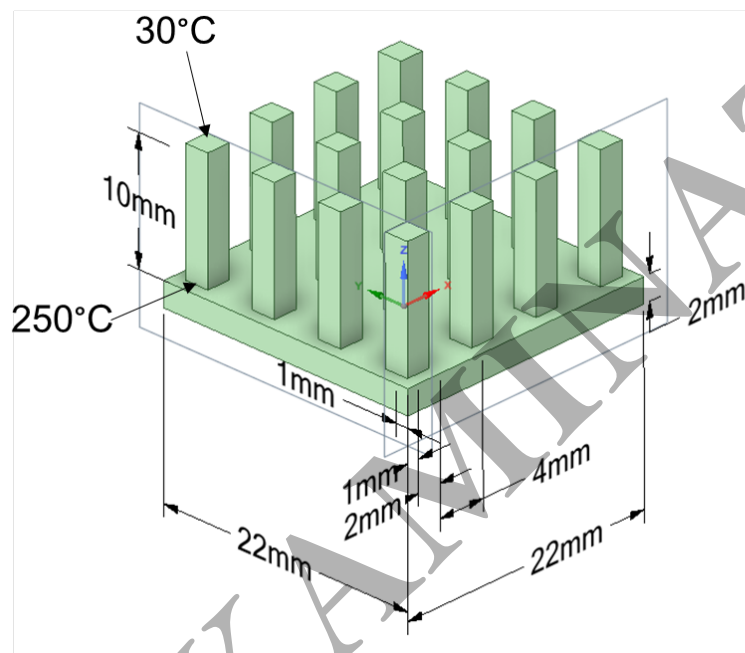

Figure Q2a: A heat sink with temperature boundary conditions.
- b) You are in the process of designing a new cooling system for a high-performance computing unit. You are at a stage where you need to assess the temperature distribution due to heat generation by the CPU and its dissipation through a heat sink. A simplified geometry of a heat sink is shown in **Figure Q2a** (shown over the page) with a fin length, L of 10 mm. The heat sink is made up of copper with a thermal conductivity of 400 W/(m.K).
According to **Figure Q2a**, the prescribed temperature at the base of the fin of the heat sink is 250°C. Assume that the outermost face of the fin is maintained at 30°C.